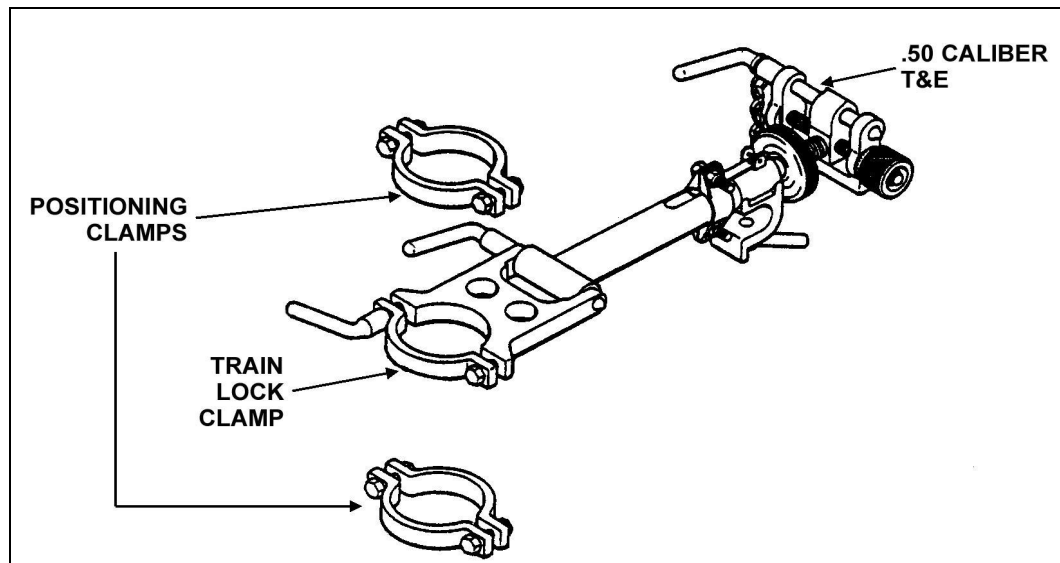

Figure 3-15. Train and elevating assembly.
(3) ***Train and Elevating Assembly.*** This assembly secures the MK 64 gun cradle to the M4 pedestal or HMMWV weapon platform pedestal and allows directional adjustments. The lower end of the train and elevating assembly is attached to the pedestal by a train lock clamp. The clamp is released or locked in position by a train lock handle. Two positioning clamps are supplied to prevent vertical movement of the train lock clamp on the M4 pedestal. When used on the HMMWV weapon platform pedestal, *only one clamp is needed above the train lock clamp.* The upper end of the train and elevating assembly is a standard caliber .50 T&E mechanism and it is attached to the lower rear holes in the M4 cradle by a retaining pin (Figure 3-15).